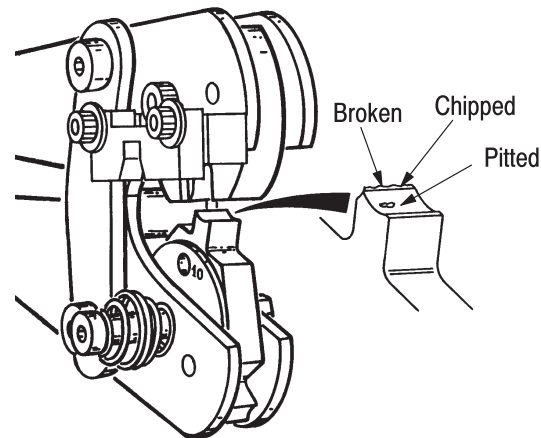

Figure 7
3. Inspect the head assembly, with special emphasis on checking for worn, cracked, or broken dies. If damage to any part of the head assembly is evident, refer to Section , for information on obtaining further evaluation and repair. Examples of possible damaged die closure surfaces are shown in Figure 7.